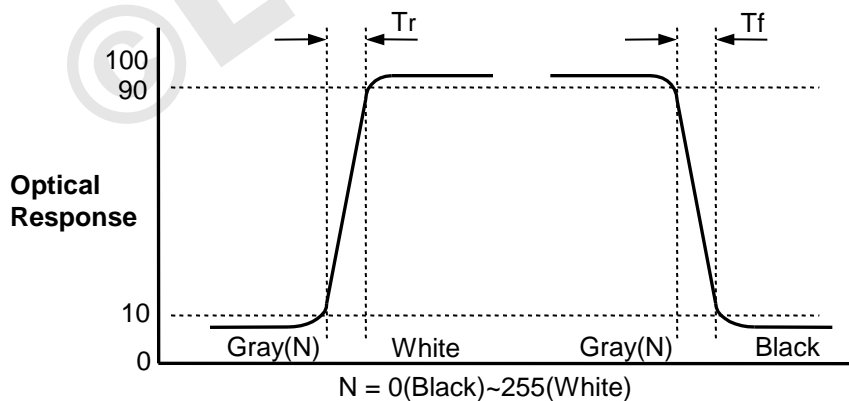

FIG. 4 Response Time
4. Response time is the time required for the display to transit from any gray to white (Rise Time,  $\text{Tr}_R$ ) and from any gray to black (Decay time,  $\text{Tr}_D$ ). For additional information see the FIG. 4.